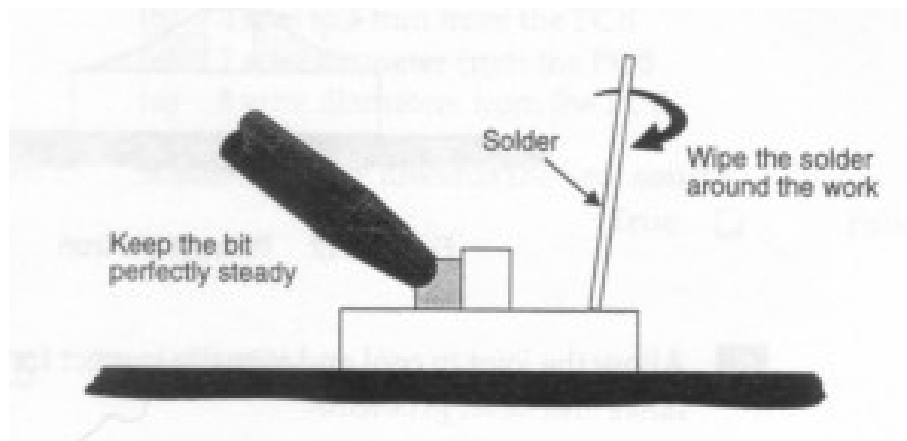

Fig. C2 - Spread solder around the work
4. Apply solder around the outside edge of the pad as in Fig. C2. If the pad and lead are at the correct temperature, the solder will flow around the connection.